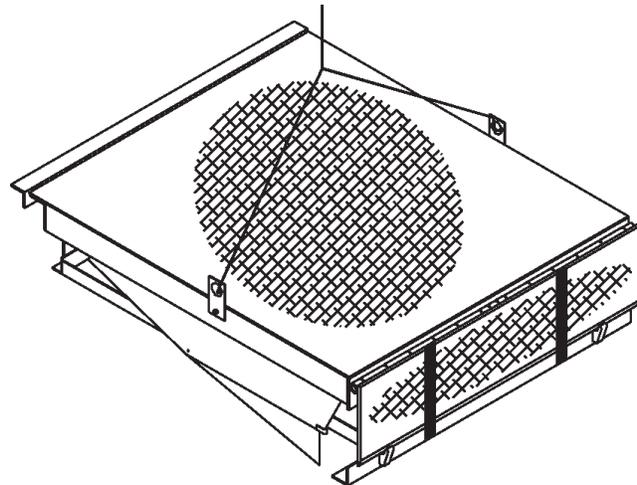

Figure 10
3. Attached lifting plates, supplied by others, to the outboard joists on both sides of the dock leveler. Use front hole on one side and rear hole on the other. See Figure 10.
13. Remove dock leveler from the pit using the lifting brackets. See Figure 10.